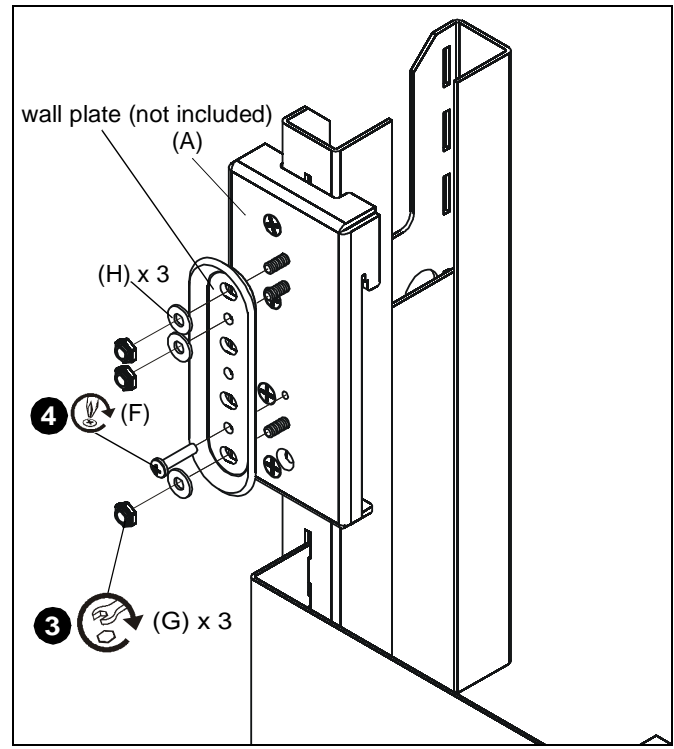

Figure 3
3. Secure wall plate (not included) to main bracket (A) by installing three #10-24 lock nuts (G) and three #10 washers (H) onto three permanent screws on main bracket. (See Figure 3)
4. Install #8-32 x 3/4" Phillips pan machine screw (F) through wall plate, main bracket, groove on vertical hooks bracket and into vertical bracket. (See Figure 3)